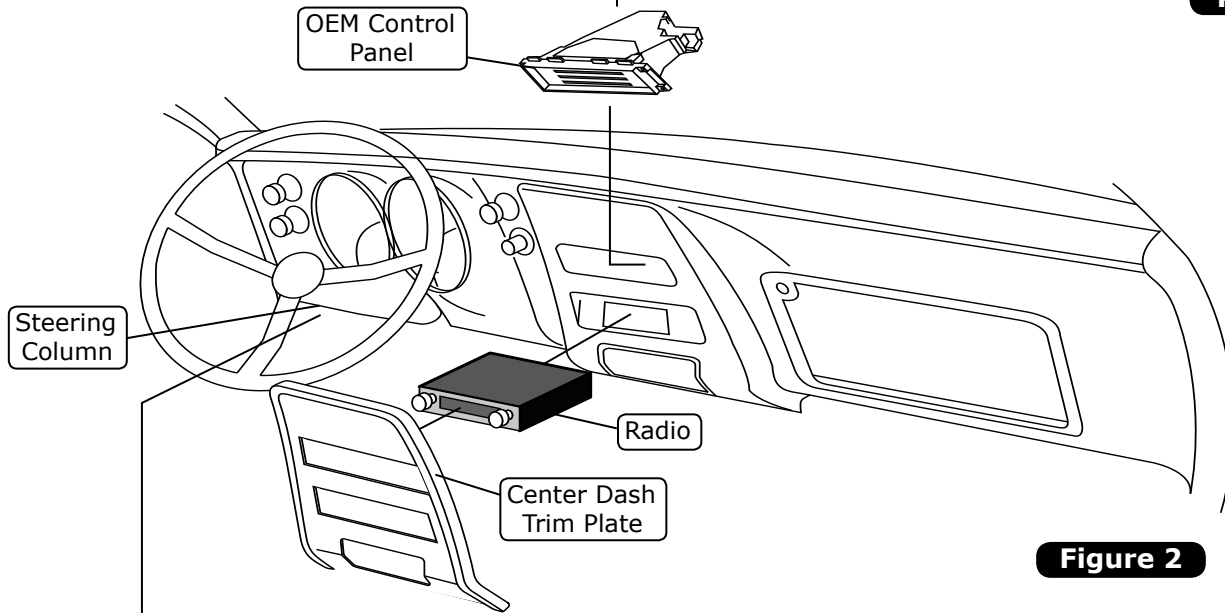

Figure 2
7. Remove the radio by removing the knobs and retaining nuts (retain) (See Figure 2, below).
9. Remove the OEM control panel assembly by removing (4) screws from the dash (retain) and disconnecting the light socket (retain) and cables (discard) (See Photo 6, below).
10. Loosen and lower the steering column by removing the (2) nuts from under the column (retain) (See Photo 7, below).